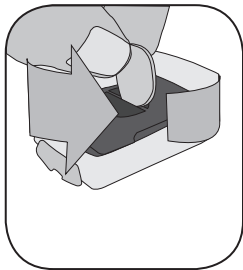

Figure 17- Removing battery cover
3. Insert a large coin into the slot and rotate in a counter-clockwise direction about one-quarter turn (Figure 17).